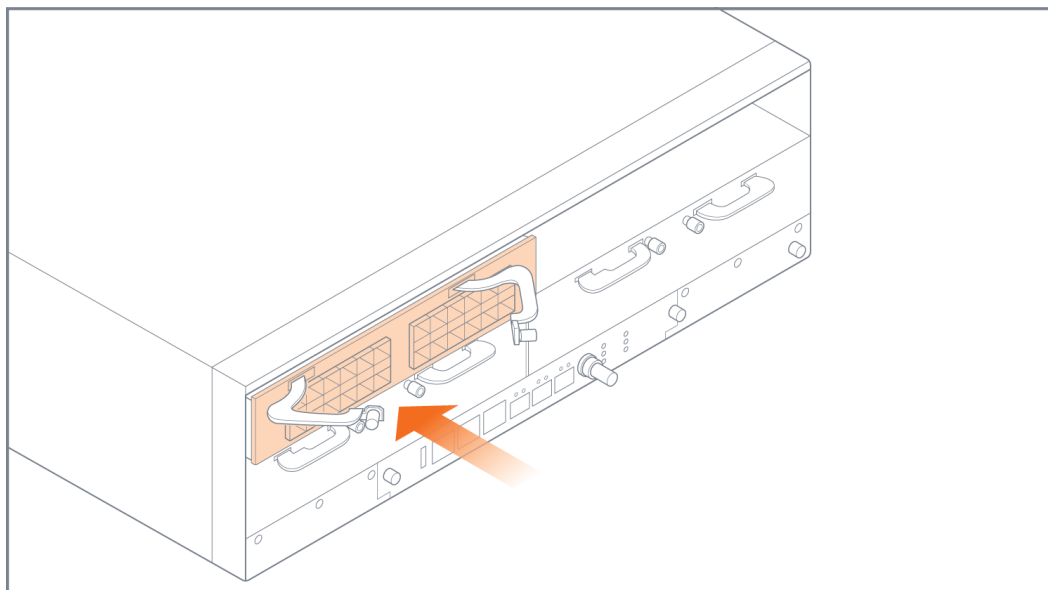

Figure 11 *Module Insertion*
2. Carefully slide the module into the bay until it mates with the mid-plane, as shown in Figure 11 Module Insertion.